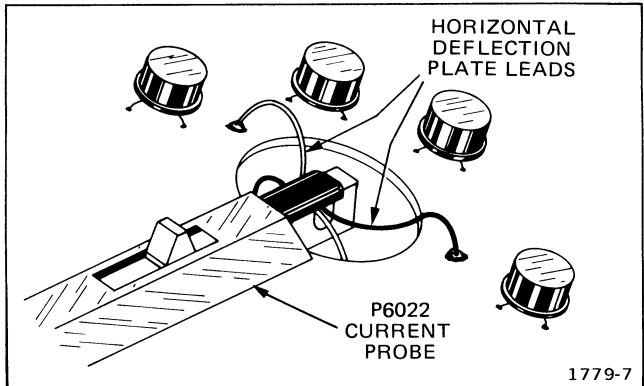

Fig. 6-8. Proper connection of current probe to horizontal deflection plate leads.
- e. Connect the probe head around the crossed horizontal deflection plate leads. See Figure 6-8 for proper probe connection.